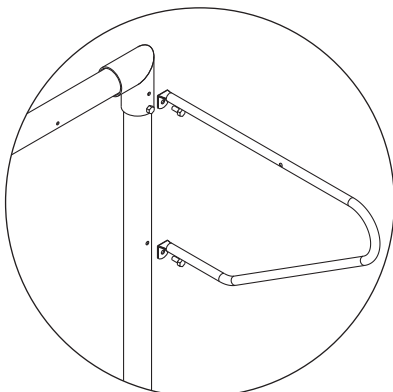

Fig.4 Continental Net Supports
- 3 Using the step ladders, fit the crossbar onto the uprights. Secure in place using BOL331: M10x30 Set screws and BOL721: 10.5mm Nylon Washers. If net supports are to be fitted bolt these to the uprights as shown in Figs 4 & 5.